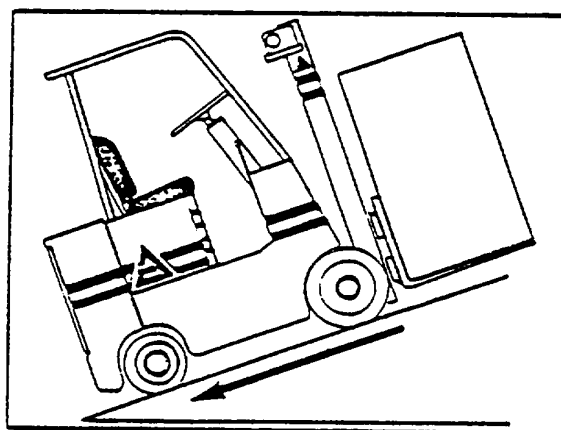

Figure 4-7. Descending an Incline
- e. Travel with the load trailing when descending an incline (Fig 4-7).